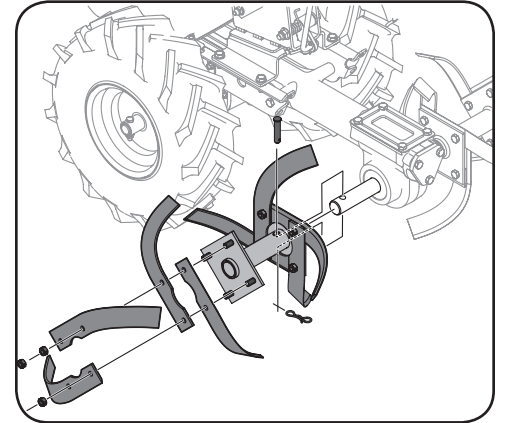

Figure 5-6
2. Remove the clevis pin and cotter pin that secure the tine assembly to the tine shaft. See Figure 5-6. Pull the tine assembly off the shaft. If necessary, use a rubber mallet to tap the tine assembly outward.
1. Remove the two screws and nuts that attach a single tine to the tine holder. If needed, use penetrating oil to help free the nuts. See Figure 5-6.